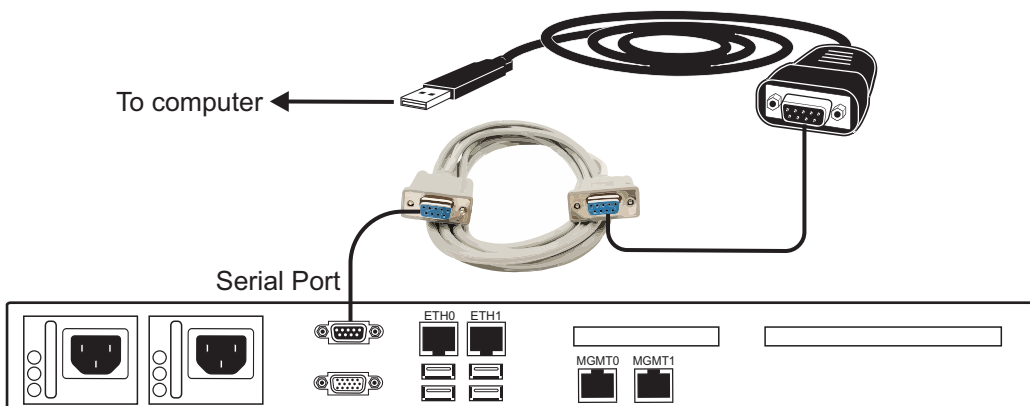

Figure 9.2 USB to DB9 Adapter
1. Connect the USB connector of the cable to a USB port on your computer and the DB9 male connector of the cable to one end of a null modem DB9 female-female cable. Connect the other end of the null modem DB9 female-female cable to the DB9 serial port of the 7800-CTRL. See Figure 9.2 on page 60.